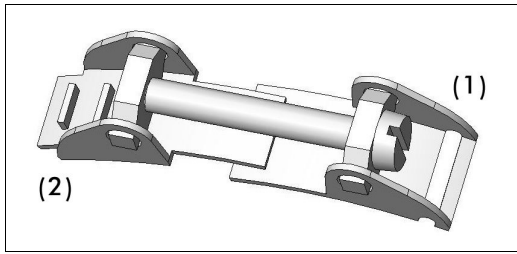

Fig. 7.3: Oetiker clasp
- Make sure that part (2) of the Oetiker clasp lays on top of part (1) as illustrated in Fig. 7.3. The hooks of part (2) must be on the outer side of the clasp.